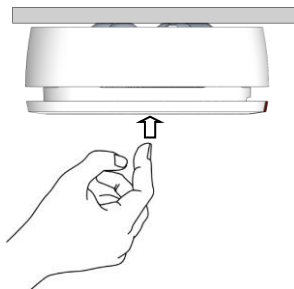

Figure 12
1. Press the cover up firmly (*see Figure 12*). If the detector is functioning correctly, an alarm is activated (*see Visual / Audible Indicators*) and an alert message is sent to the system receiver.